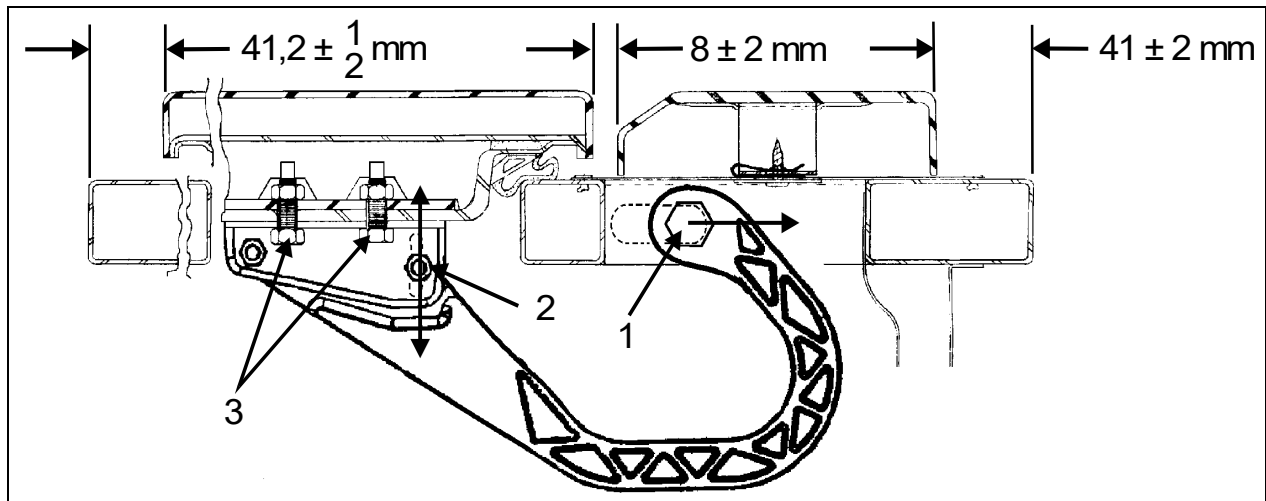

FIGURE 73: EVAPORATOR DOOR
2. Loosen nut (1, Figure 73).
4. Tighten nut (1, Figure 73).
5. Loosen nut (2, Figure 73). Hinge allows the door to be shifted "IN or OUT".
7. Loosen screws (3, Figure 73). Screws allow the door to be shifted "UP or DOWN".